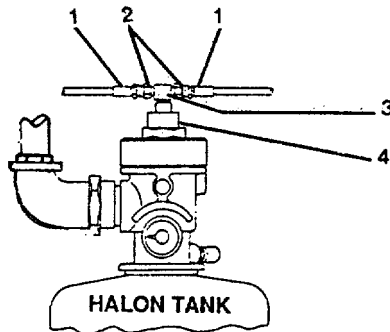

FIGURE 3-3. Main Machinery Room Halon Tank Service.
- (1) Disconnect hose connector (2, Figure 3-3) at male adapter tee (3) to remove hoses (1).
- (2) Remove male adapter tee from actuator (4).
- (3) Repeat steps (1) and (2) for other halon tank in subsystem.